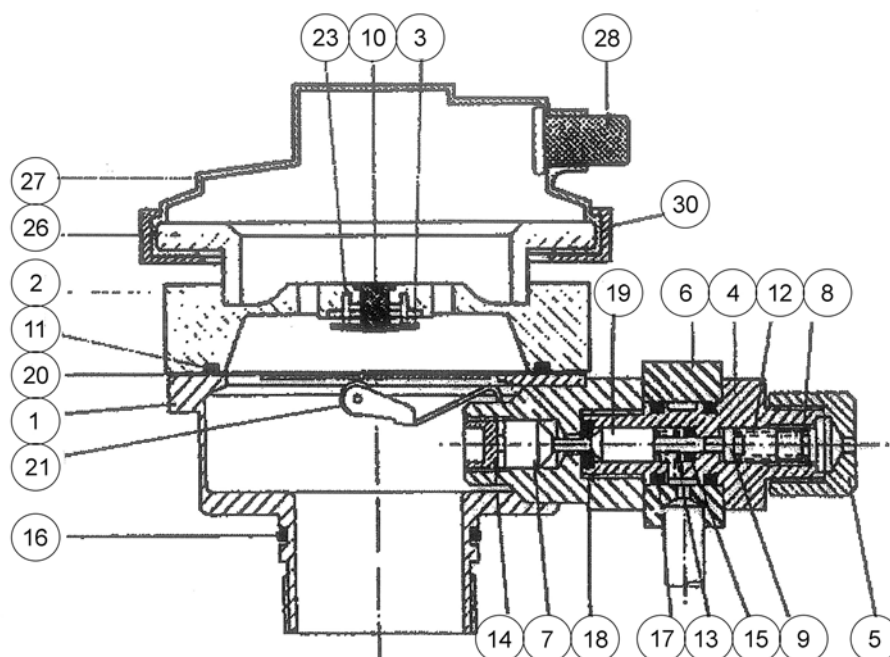

Fig 2.8 Demand regulator
Fig 2.8 shows a cross-section through the demand regulator. The SLS System's overpressure valve is also incorporated in the demand regulator body but is excluded from this drawing for clarity.
H.P. gas enters the demand regulator through the banjo fitting (Fig 2.8, Item 6). The valve pin (Fig 2.8, Item 19) is pressure balanced since gas supply pressure acts on the pin at the O-ring (Fig 2.8, Item 15) and (over the same area) at the valve seat (Fig 2.8, Item 18). This means that the regulator supplies gas at the same negative pressure setting over a wide range of gas supply pressures. The valve is normally held closed by means of the spring (Fig 2.8, Item 12). When the pressure difference sensed by the diaphragm (Fig 2.8, Item 20) is sufficiently great for the lever fork (Fig 2.8, Item 21) to overcome the spring (Fig 2.8, Item 12) the lever fork pushes the valve pin allowing gas to flow into the SLS System.